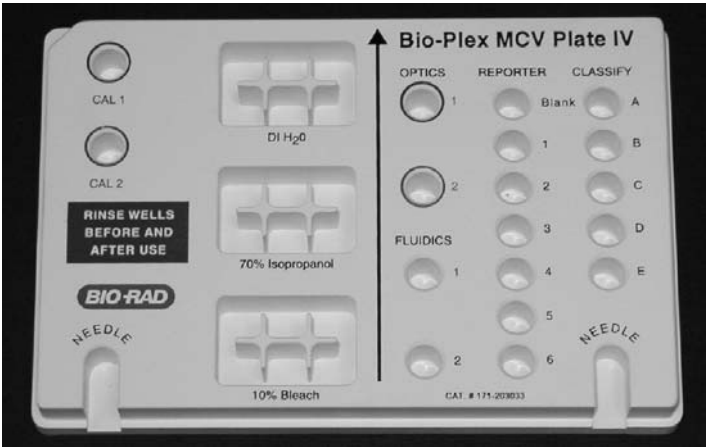

Fig. 2. MCV plate IV.
- Place 5 drops of each bead into the respective wells on the MCV plate (see Figure 2 below or Figure 1B). Store beads at 4°C as soon as possible after use. Protect the beads from light.